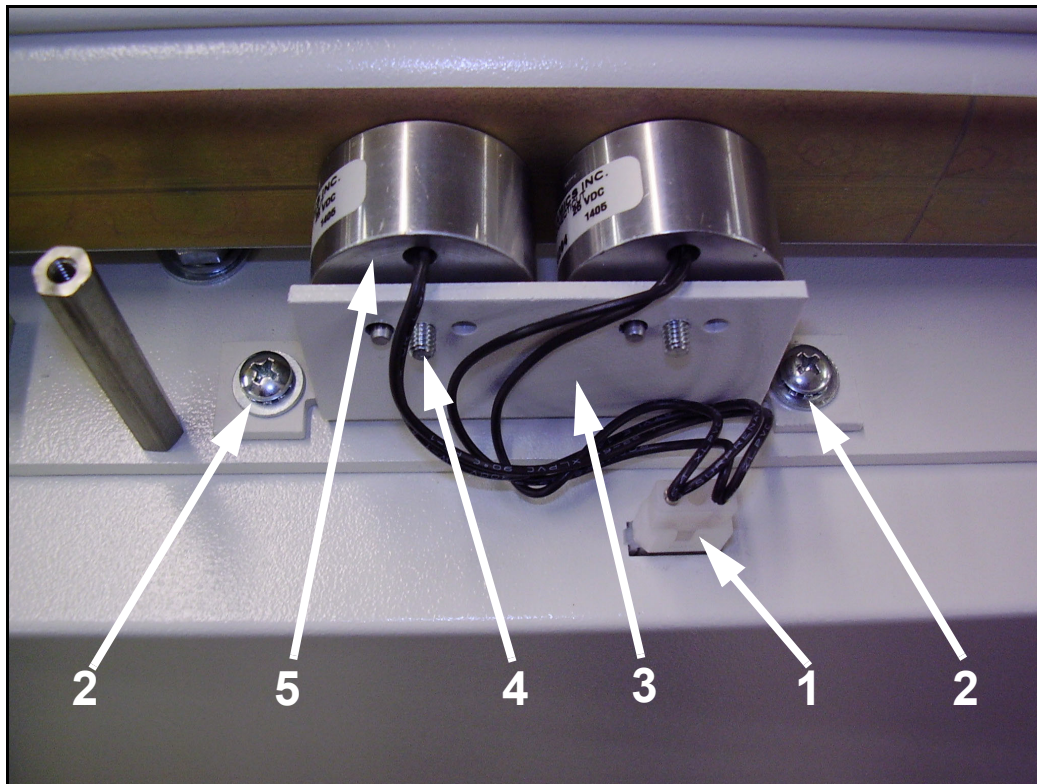

Figure 6-27. Transverse Locks (Right Side Shown)
- 5 Unplug the connector (1 in Figure 6-27).
- 6 Unscrew the two mounting screws (2) and remove the bracket assembly (3).
- 7 Unscrew the lock screw (4) and remove the lock (5).